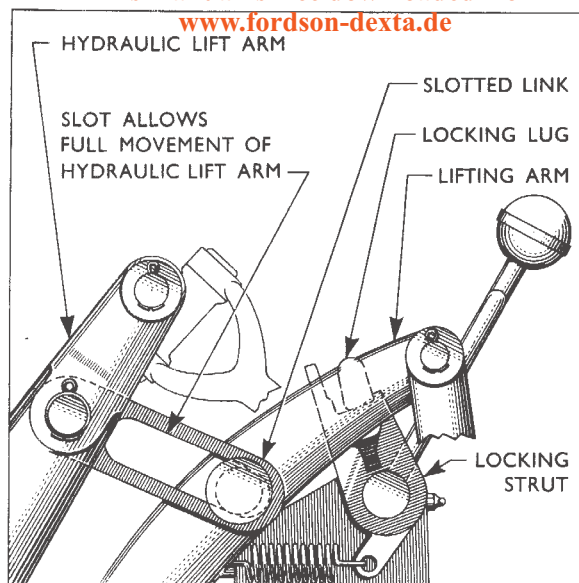
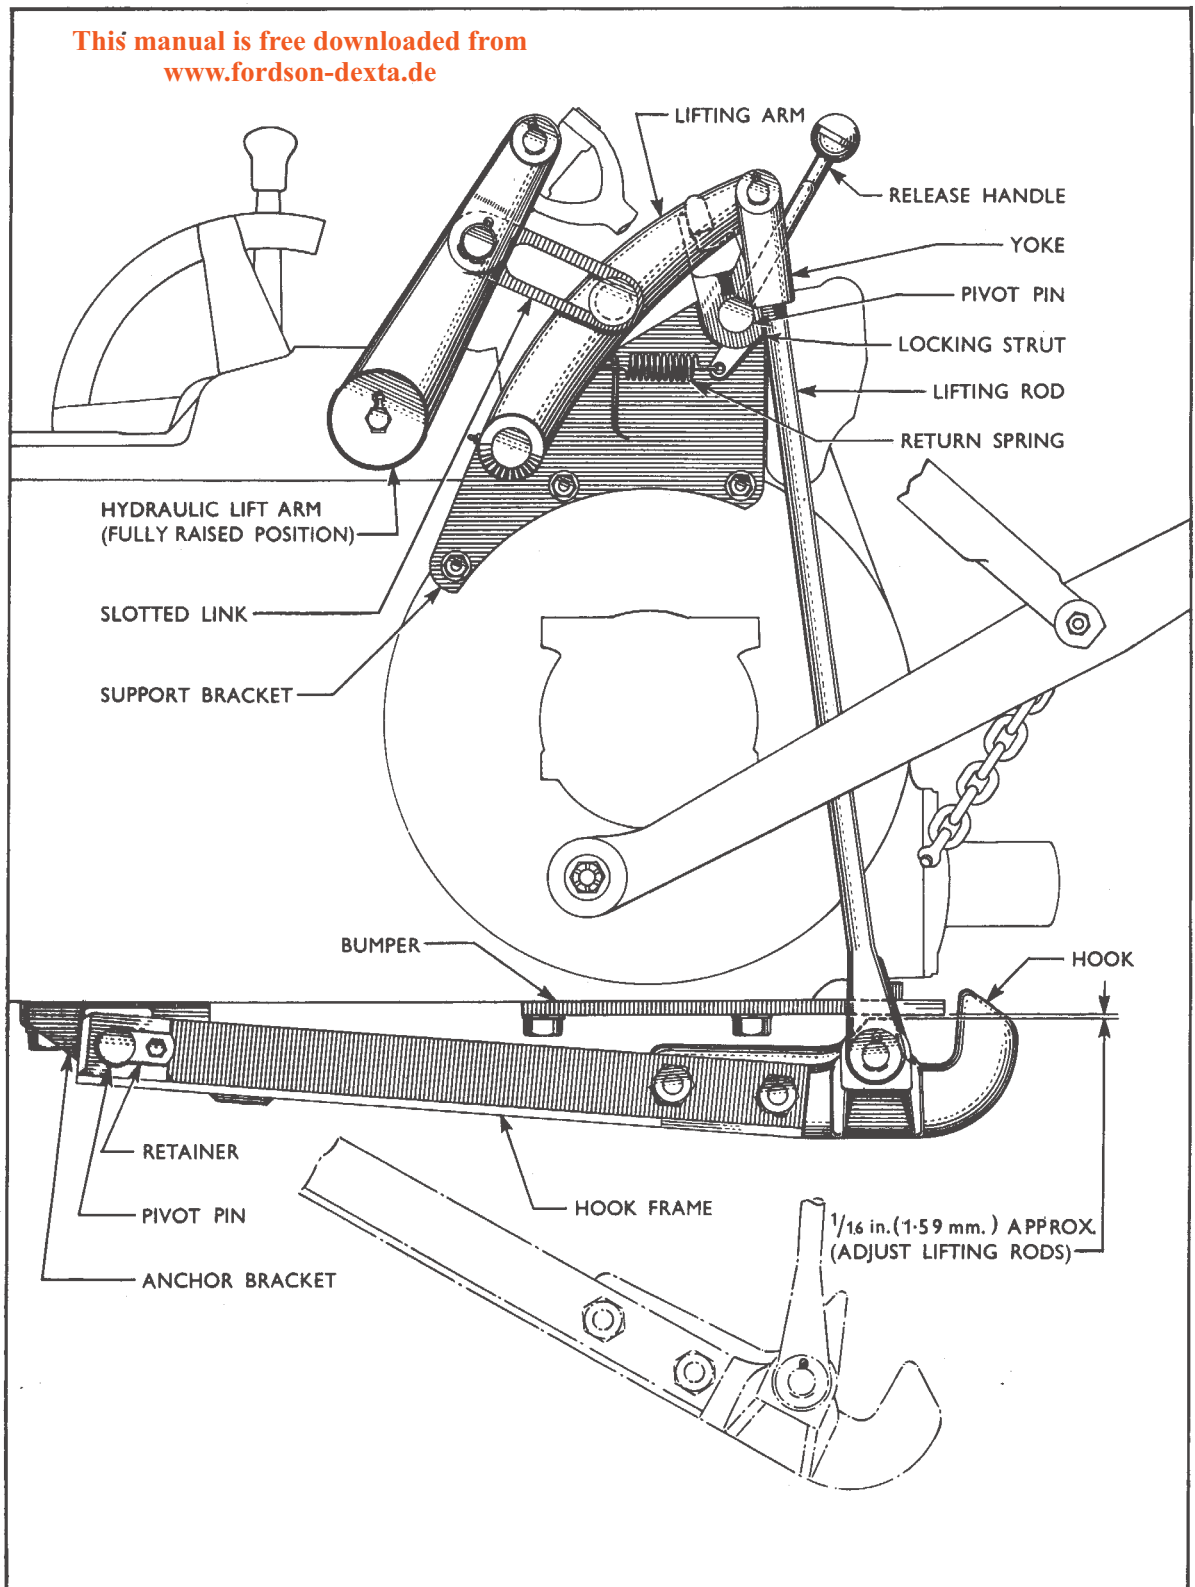
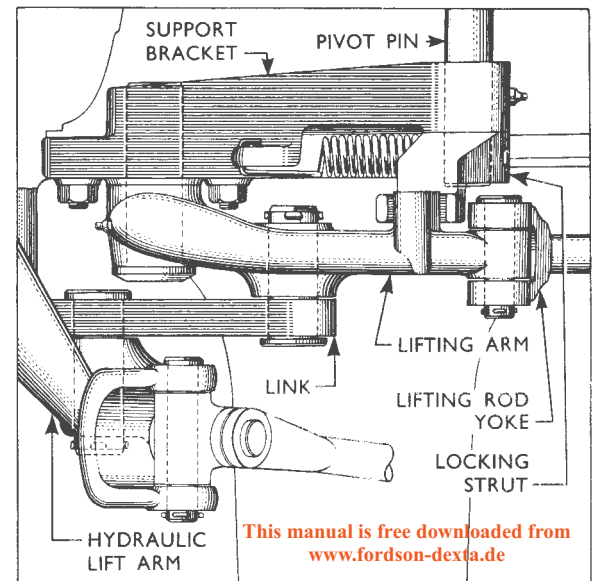

Fig. 2
Fig. 4
Fig. 5
lower ends on pins secured to the support brackets and are connected by slotted links with further pins to special hydraulic lift arms which replace the standard lift arms normally supplied with the tractor. The slotted connection of the links to the hitch lifting arms allows independent operation of the hydraulic lift and associated linkage when the hitch is not required for use (see Fig. 2).
rearward to the locking position (see Fig. 4). It is desirable that trailer loads on the hitch are supported mechanically rather than hydraulically and to achieve this end the control lever must now be moved down the quadrant sufficiently to ensure the hitch lifting arm lugs locate in the slots in the locking faces of the struts (see Fig. 2).
When the hydraulic lift arms are fully raised there must always be clearance between the lug cast in the centre of the hook body and the underside of the bumper and it is recommended that the clearance, which should be approximately $\frac{1}{8}$ in. (1.59 mm.) (see Fig. 4), be checked after extended periods of usage. If there is no clearance or if the clearance is excessive it should be corrected by adjusting the yokes on the hitch lifting rods an equal amount as required, bearing in mind that altering the position of the yokes on the rods half a turn will alter the clearance by approximately $\frac{1}{8}$ in. (1.59 mm.).
3. At each rear axle housing flange unscrew the three nuts which must be removed in order to fit each of the two hitch support brackets (see Fig. 4) then unscrew the corresponding studs from the rear transmission housing.
1. Attach a slotted link at the boss cast on the inside of each of the two special hydraulic lift arms by inserting the appropriate pivot pin through the hole in the link and through the hole provided in the lift arm so that the pin head is adjacent to the link (see Fig. 5). Secure the pivot pins with split pins ensuring that the links pivot freely on the pins.
2. Assemble the right- and left-hand hitch lifting arms to the corresponding support brackets by, in each case, positioning the large boss at the end of the arm against the machined face of the large boss of the support bracket with the locking lug of the arm adjacent to the bracket (see Fig. 5). Align the hole in the arm with the hole in the bracket, insert the appropriate pivot pin through the arm and into the bracket so that the securing pin hole in the pivot pin is in line with the securing pin hole in the support bracket. Retain the pivot pins by driving the 2 in. (50.8 mm.) long securing pins firmly into position, lightly grooved end of pin foremost. Check the hitch lifting arms for freedom of operation.
4. Install the left-hand locking strut, identifiable by the hole in the small projecting tongue, on the end of the locking strut pivot pin so that it is located on the outside of the left-hand support bracket with its cranked end away from the bracket (see Fig. 5). Align the securing pin holes in the locking strut and pivot pin so that the strut is vertically above the pivot pin when the release handle is offset from the upright position approximately 45° towards the rear of the tractor. Retain the locking strut by driving the securing pin, lightly grooved end of pin foremost, firmly into position.
10. Position each hitch lifting arm as required to enable the free ends of the slotted links to be connected to the hitch lifting arms by means of the pivot pins. Insert the pins through the slots in the links and the holes provided in the arms so that the pin heads are against the links (see Fig. 5). Secure the pivot pins with split pins.
the lift arms (see Fig. 5). Secure the clevis pins with new split pins.
12. Drive the dowel fully into the appropriate hole machined in the anchor bracket so that it protrudes from the locating face of the bracket. Position the anchor bracket against the underside of the rear transmission housing (see Fig. 4), locating the dowel in the hole provided at the front end of the housing. Align the screw holes in the bracket and housing then secure the bracket in position with the four $1\frac{5}{8}$ in. (41.3 mm.) long screws fitted with spring washers.
13. Secure the bumper, plain face downwards and angled end to the rear, to the underside of the rear transmission housing, rearward of the anchor bracket, using four screws and spring washers (see Fig. 4).
14. Position the hook assembly under the rear transmission housing, hook facing upwards, locate the end of the hook frame on the anchor bracket and retain by inserting the pivot pin through the hole in the frame and bracket so that the grooved end of the pin projects from the left-hand side of the hook frame. Fit the retainer to the pivot pin groove and secure to the hook frame with the screw and spring washer (see Fig. 4).
15. Jack or block-up the hitch hook so that there is approximately $\frac{1}{16}$ in. (1.59 mm.) clearance between the lug cast in the centre of the hook body and the underside of the bumper (see Fig. 4). Attach the hitch lifting rods to the pins located one either side of the hook body and secure each rod in position by means of a plain washer and split pin. **Ensure the hydraulic lift arms are fully raised with the pins connecting the hitch lifting arms to the slotted links contacting the lower ends of the slots (see Fig. 4).** Screw the yokes onto the hitch lifting rods so that they engage the hitch lifting arms with the holes in the yokes aligned, within the limits of the adjustment, with the holes in the hitch lifting arms—**do not alter the position of the hook.** Connect the yokes to the arms, if necessary now adjusting the position of the arms to enable the clevis pins to be installed, pin heads on the inside of the yokes (see Fig. 5). Secure the clevis pins with split pins.